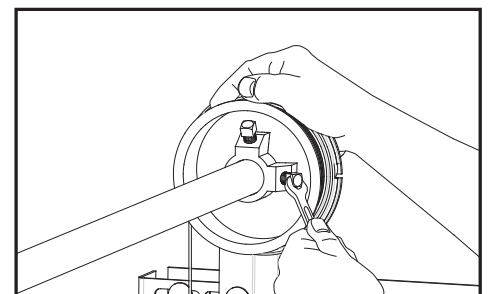

Fig. 5.2.3
- Once the cable is taut, slide the cable drum against the side bearing bracket and tighten the screws to the torsion bar. Fig 5.2.3.